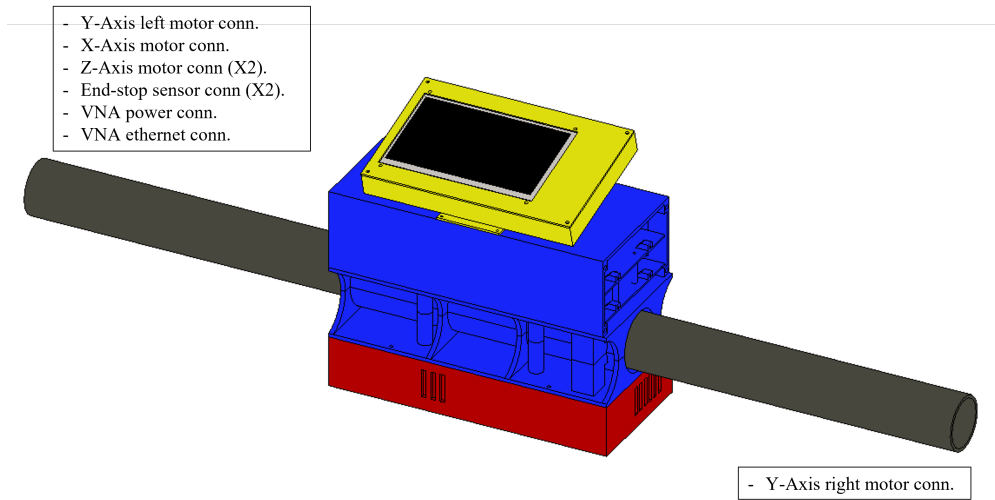

Figure 1: Electronics box with its connectors identified.
The electronics box consists of a case for the electronic systems of the robot mounted on a two-inch PVC pipe. The electronics box connects to the robot through a set of different connectors. There are nine (9) connectors located at the end of the PVC pipe. To identify the connectors place the PVC pipe with the electronics box with the touchscreen facing you as shown on figure 1. On the right end of the pipe there is only one connector: the phases for the right Y-axis motor. The left side has eight (8) connectors: